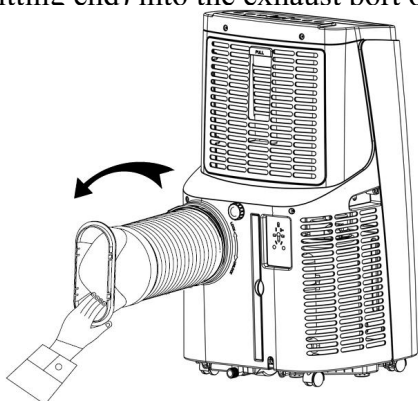

Figure 1
1.1 Install the heat pipe assembly (as shown in Figure 1): screw the heat pipe assembly (exhaust fitting end) into the exhaust port on the rear panel (counterclockwise).